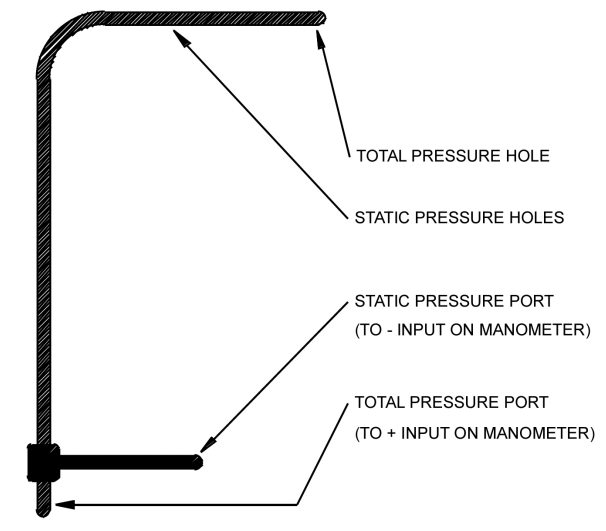

Figure 2: Pitot probe
- Check to ensure that all tubing connections are tight (see Figure 2).